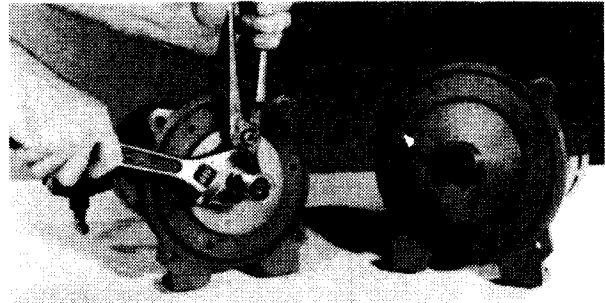

Fig. 2
3. On $\frac{1}{3}$ and $\frac{1}{2}$ HP models hold impeller with pliers and unscrew venturi tube. On $\frac{3}{4}$ and 1 HP models venturi tube is screwed into the pump case. (Fig. 2.)